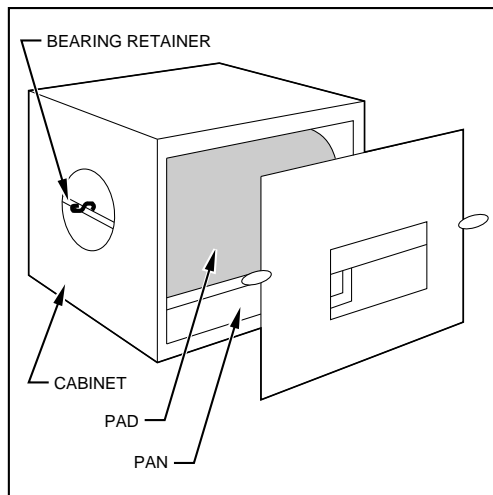

Fig. 10 — Model 49WS
- On a Model 49WS unit, look through the window on front of the unit to see that the evaporator pad is rotating and water is flowing. (See Fig. 10.)
- Remove and inspect the evaporator pad assembly. Lift the bearing from its retainer. (See Fig. 10.) Pull the assembly away from the motor to disengage the assembly shaft from the motor coupling. Remove assembly through the access opening.